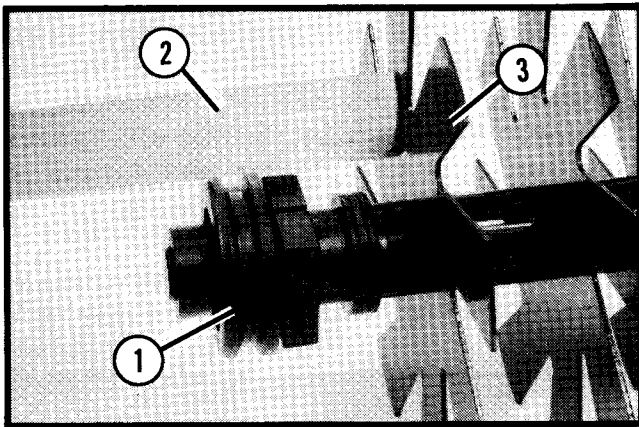

Figure 14. Pillow Block Alignment
6. Install the pillow block with bearing on the shaft. Slide the pillow block on until the outside edge of the block is 5/8" (16mm) from the end of the shaft (See Figure 14).
7. The pillow block must also be perpendicular to the shaft. To check this, hold a ruler against the first blade and across the edge of the pillow block (See Figure 14). Rotate the pillow block by hand. If the edge of the pillow block does not appear to move back and forth, the pillow block is perpendicular.